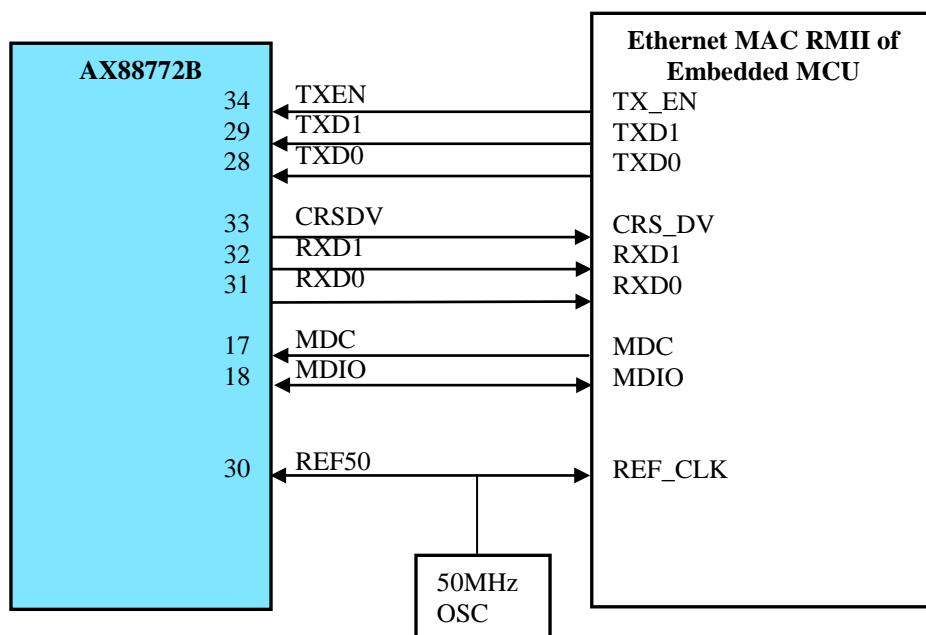
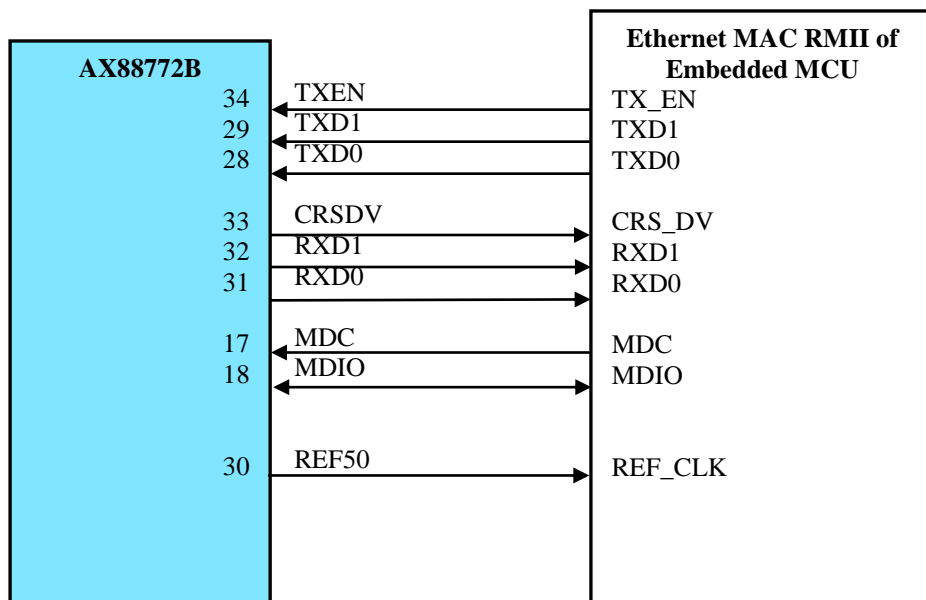

Figure 11 : Reverse-RMII to External MAC Device with 50MHz OSC
Figure 12 : Reverse-RMII Interface to External MAC Device
- In PHY mode, the AX88772B Ethernet block is configured as an Ethernet PHY interface. In this case, an external microcontroller with Ethernet MAC can interface with AX88772B as if it were to interface with an Ethernet PHY chip, and AX88772B can act as a USB to Reverse-RMII bridge chip for the microcontroller to provide USB 2.0 device interface for some system applications (see Figure 4). Please refer to below Figure 11, Figure 12 for Reverse-RMII example.